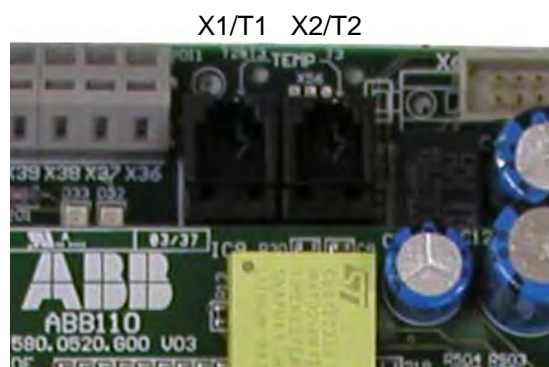

Figure 7.48. Detailed view of the temperature probe sockets on the main controller board
- Connection of the probe to the filter's main controller board (Cf. Figure 5.12, item 3). Two external temperature probes can be connected. This is done by plugging the RJ11 connector of the temperature probe firmly in one of the RJ11 sockets. Figure 7.48 shows a detailed view of the temperature probe sockets on the main controller board. Once the connection is made, the probes will be recognized by the system at the next power-up.